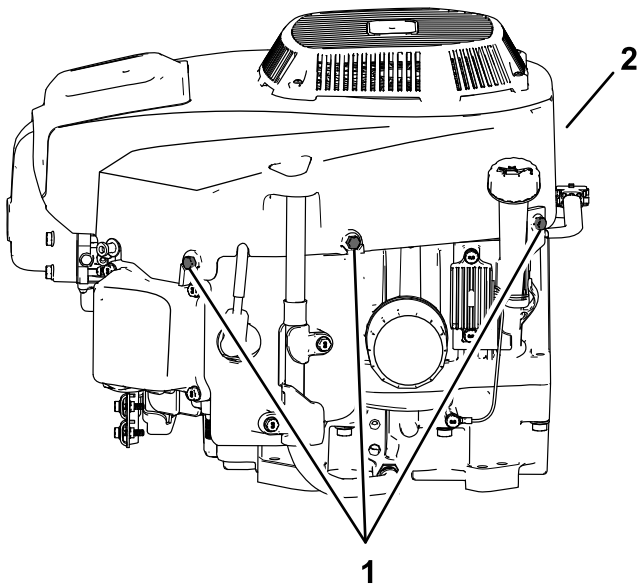

Figure 39
4. Loosen the bolts and remove the fan housing (Figure 39).